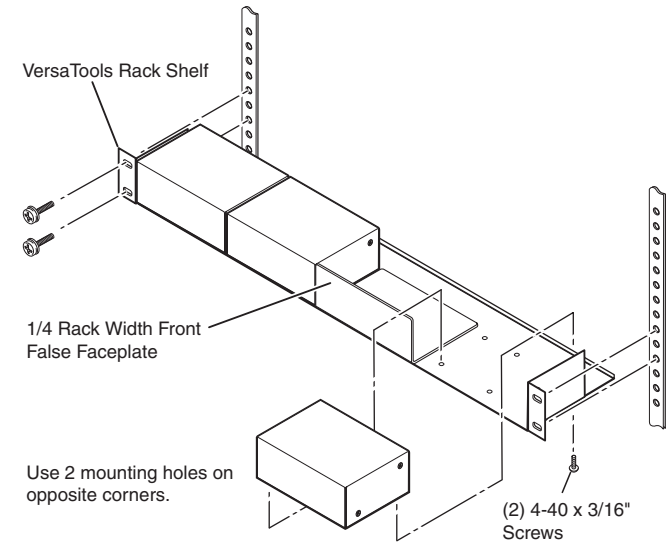

Figure 3 — Mounting the MDA on a VersaTools shelf
- RSF 123 VersaTools® rack shelf kit (part #60-190-20) (figure 3 on the next page)
2. Mount the MDA using two 4-40 x 3/16" screws in opposite (diagonal) corners to secure the MDA to the shelf (figure 3 on page 3).